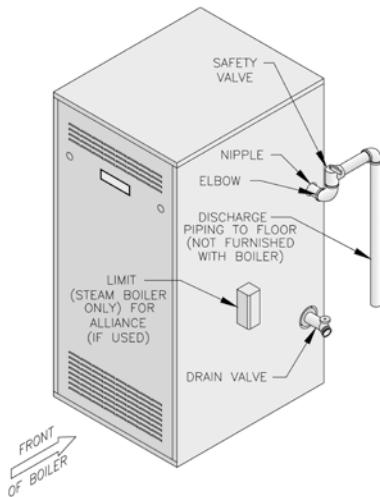

Figure 23: Trim Installation
- B. Install Safety (Relief) Valve in Tapping "E" ($\frac{3}{4}$ NPT). See Figure 23. Use $\frac{3}{4}$ NPT x 3" nipple and $\frac{3}{4}$ NPT elbow provided. Safety (Relief) Valve must be installed with spindle in vertical position.
- C. Install Drain Valve in Tapping "F" (2 NPT bushed to $\frac{3}{4}$ NPT). See Figure 23.
- b. Limit. See Figure 23. Install temperature limit control (Honeywell L4006A or equal) in Tapping "P" (3/4 NPT). See Figure 2. Set at 180°F to prevent steam production during non-space heating periods.